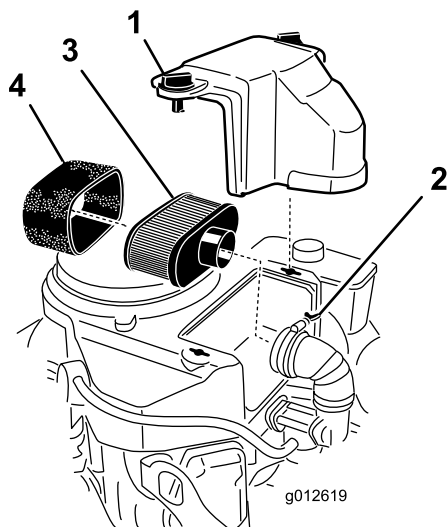

Figure 38
3. Clean around the air cleaner to prevent dirt from getting into the engine and causing damage (Figure 38).
4. Loosen the cover knobs and remove the air-cleaner cover (Figure 38).
- Loosen the hose clamp and remove the air-cleaner assembly (Figure 38).
- Carefully pull the foam element off the paper element (Figure 38).
- Clean the paper element by tapping it gently to remove dust. If it is very dirty, replace the paper element (Figure 38).
- Carefully slide the foam element onto the paper element (Figure 38).
- Place the air-cleaner assembly onto the air-cleaner base or hose and secure it (Figure 38).
- Place the air-cleaner cover into position and tighten the cover knobs (Figure 38).